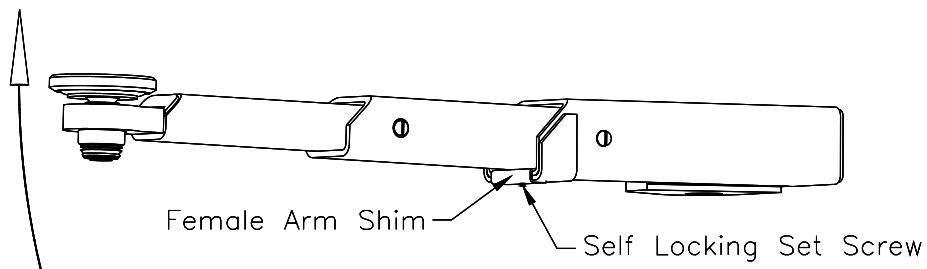

Fig. 11 – Arm Shim, 3-Stage
29. Extend the arm fully and lift up on the male portion, Fig 11.